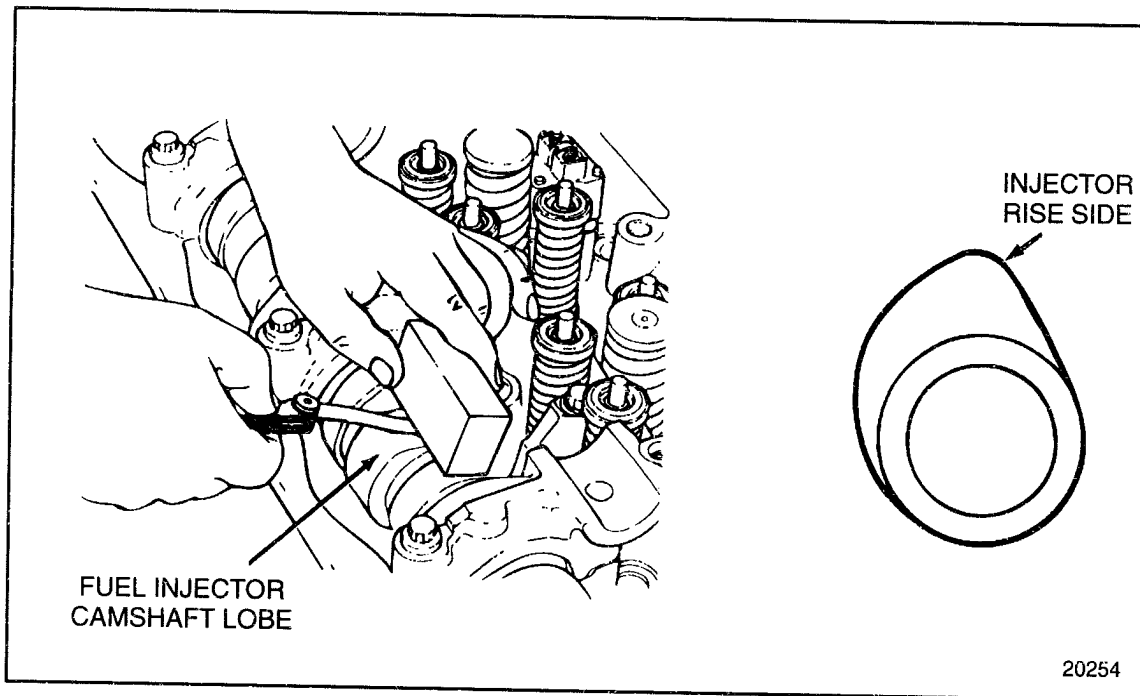

FIGURE 1-284 Checking Camshaft Lobe Wear
- [a] With a set of feeler gages, 0.038–0.254 mm (.0015 – .010 in.) and a piece of square, hard material 3 x 10 x 25mm (1/8 in. x 3/8 in. x 1 in.), measure the flat on the injector rise side of the camshaft lobes and nose of valve lobes. See Figure 1-284.